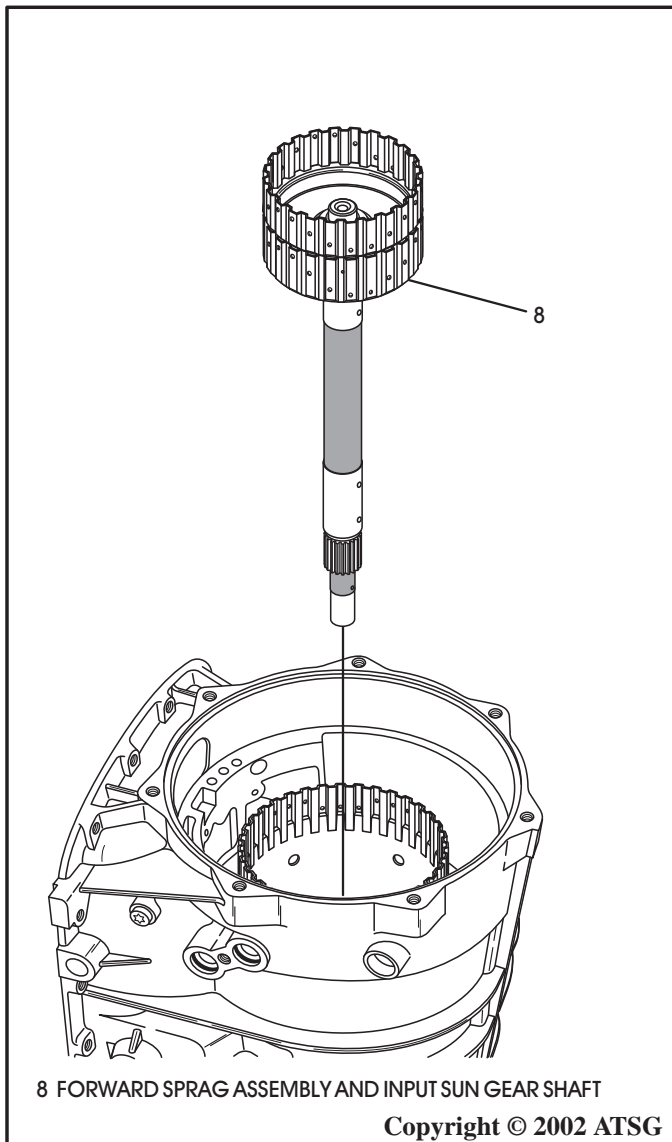

Figure 47
38. Remove the input sun gear shaft and forward sprag assembly by lifting straight up, as shown in Figure 47, and set the assembly aside for the component rebuild section.